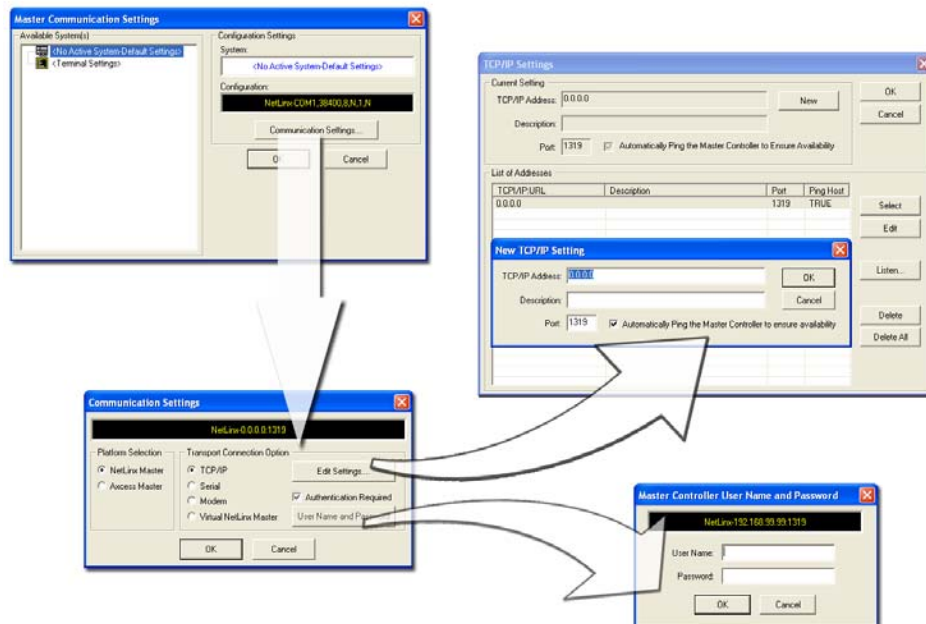

FIG. 50 Assigning Master Communication Settings and TCP/IP Settings
3. Select **Settings > Master Communication Settings** from the Main menu to open the Master Communication Settings dialog (FIG. 50).
7. Click the **Edit Settings** button (on the *Communications Settings* dialog) to open the TCP/IP Settings dialog (FIG. 50). This dialog contains a series of previously entered IP Address/URLs and their associated names, all of which are stored within Studio and are user-editable.